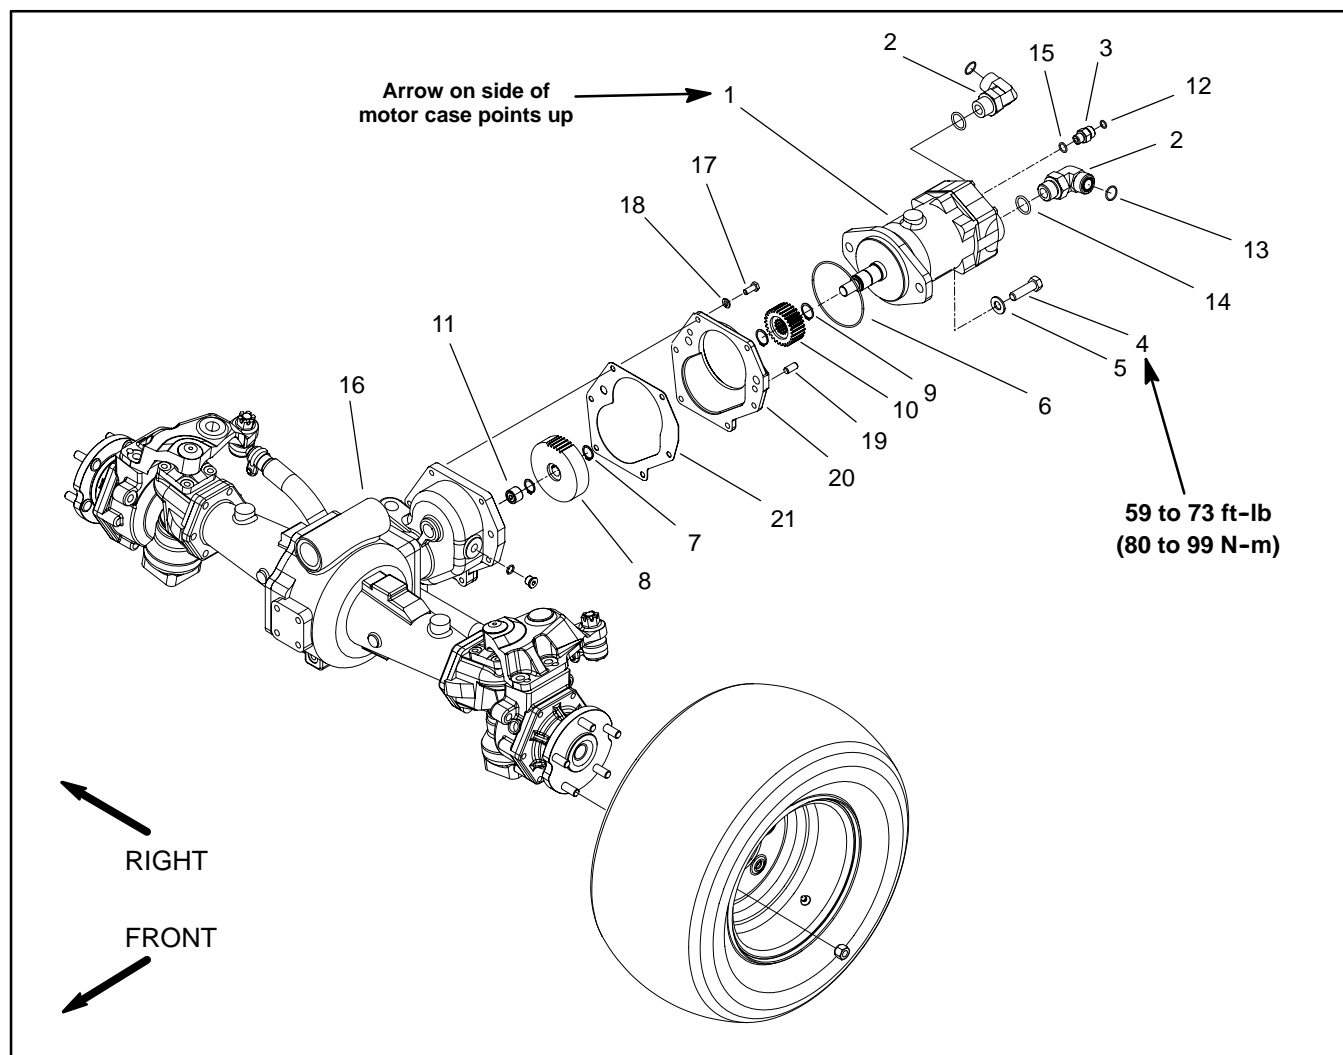

Figure 71
## Removal (Fig. 71)
4. Remove motor from rear axle using Figure 71 as a guide.
## Installation (Fig. 71)